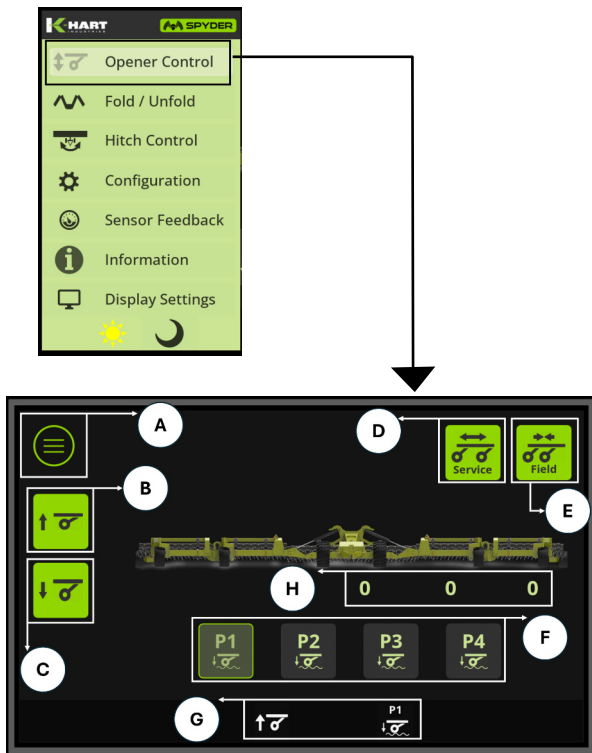

Figure 3.30 Opener Control Display
1. Navigate to the Opener Control page (Figure 3.30).